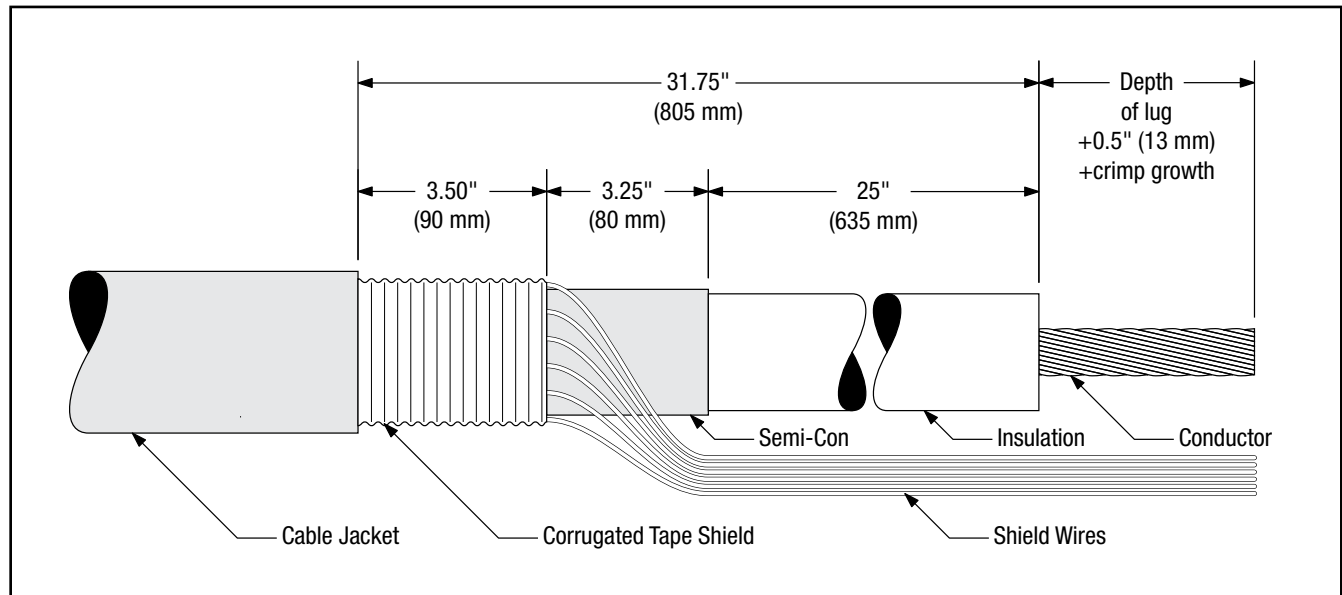

Figure 1
- 1.2 Prepare cable using dimensions shown in Figure 1. **Be sure to allow for depth of terminal lug plus 0.5" (13 mm) plus crimp growth.**